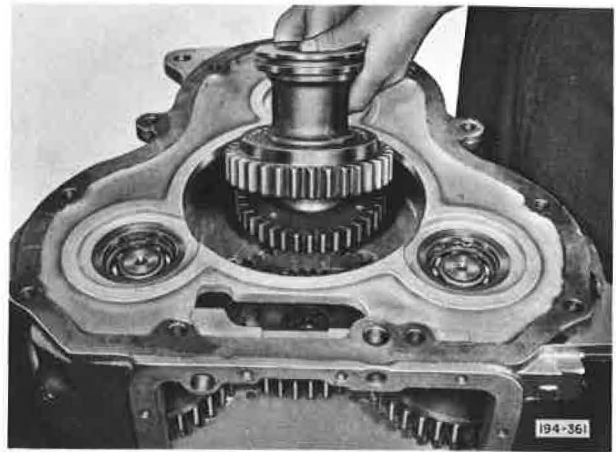

Figure 5-138. Removing Main Driving Pinion Sliding Clutch and Hi-Range Gear from Compound Case
6. Remove main driving pinion sliding clutch and Hi-range (Lo-range for TRDXL107 and TRDXL1071) gear from compound case assembly. See Figure 5-138.